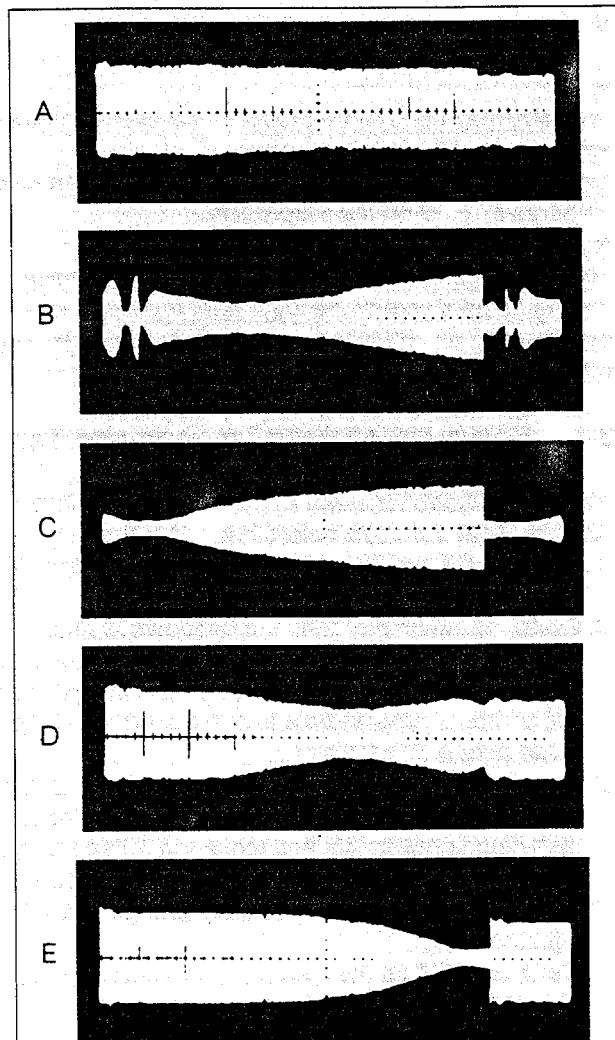

Fig. 3-2-1
#### 3-2-1 Guide Roller Adjustment(Refer to Fig. 3-2-1.)
- C. Check if the FM waveform is flat like A shown in Fig. 3-2-1.
(Refer to Fig. 3-2-1, 3-2-2.)